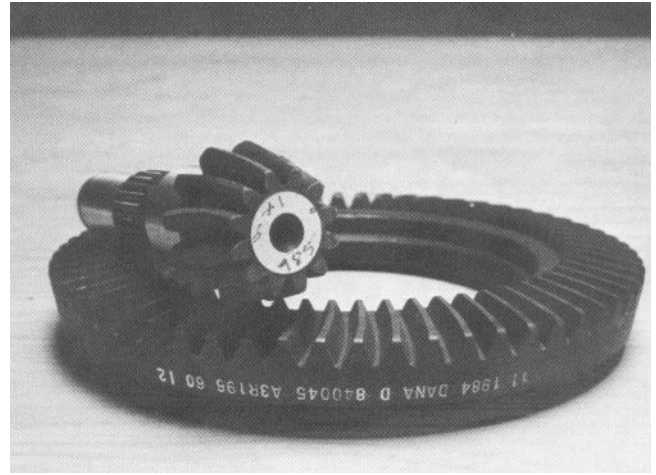

Figure 27
B. When installing NEW ring and pinion gears (supplied in matched sets only) make sure the numbers etched on both the pinion and ring gear match (Fig. 27).